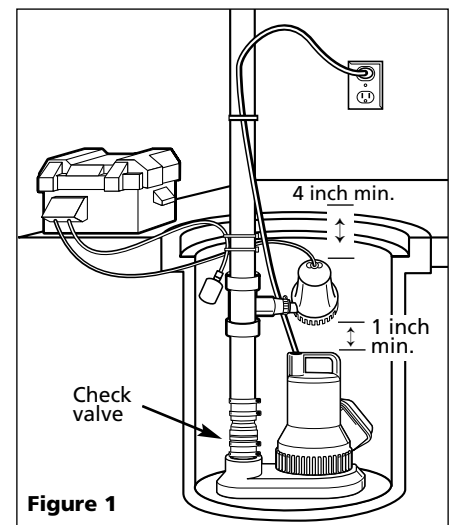

Figure 1
A check valve must be used on the primary sump pump discharge (see Figure 1)
2. Pump must be installed using 1 1/4" or 1 1/2" rigid PVC piping. A check valve (not included) **must** be installed between the ESP's tee and the main pump (see Figure 1).
3. Measure and cut discharge pipe so that back-up pump is a minimum of 1 inch above the main pump. This will allow main pump to operate normally (see Figure 1).